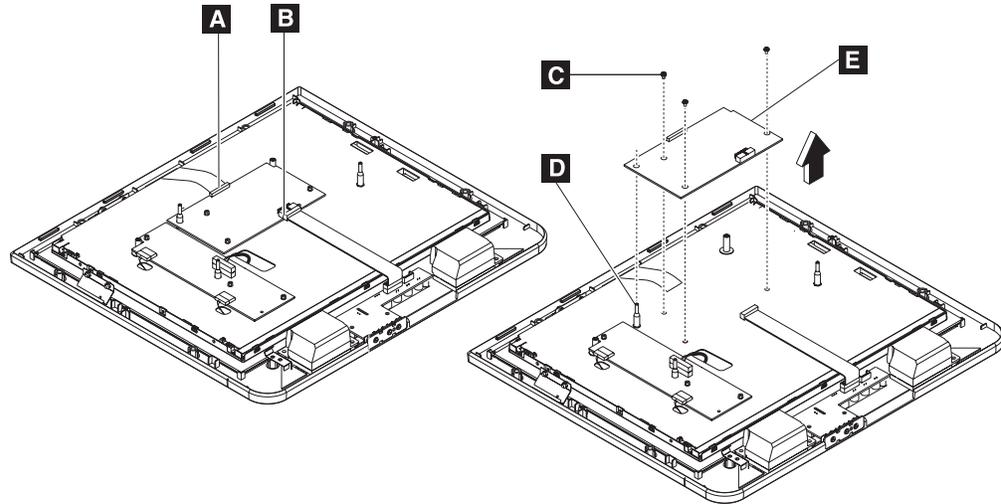

Figure 27. Removing the front panel card
3. See Figure 27. Disconnect the speaker connections from the card (**E**).
- Touch cable (see **A** in Figure 27 on page 40)
- Control card cable (see **B** in Figure 27 on page 40)